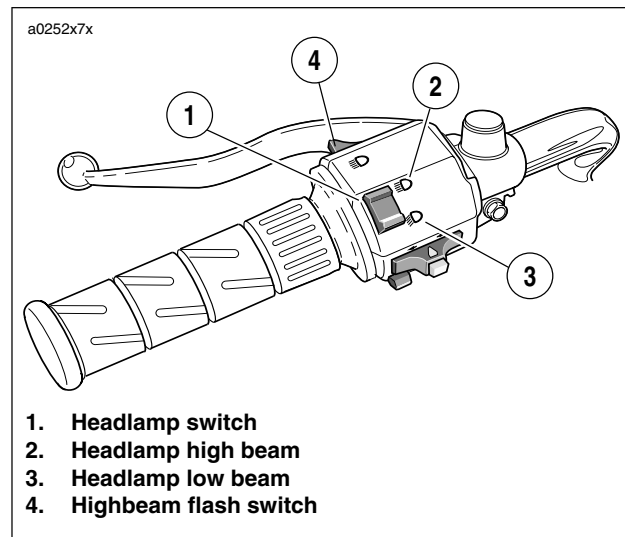

Figure 7-64. Headlamp Switch
5. See Figure 7-64. Check headlamp for proper operation.
- b. Check headlamp LOW (3) and HIGH (2) beam settings.
- c. Set headlamp to LOW beam. Press highbeam flash switch (4). Headlamp should flash HIGH beam for as long as the switch is pressed.